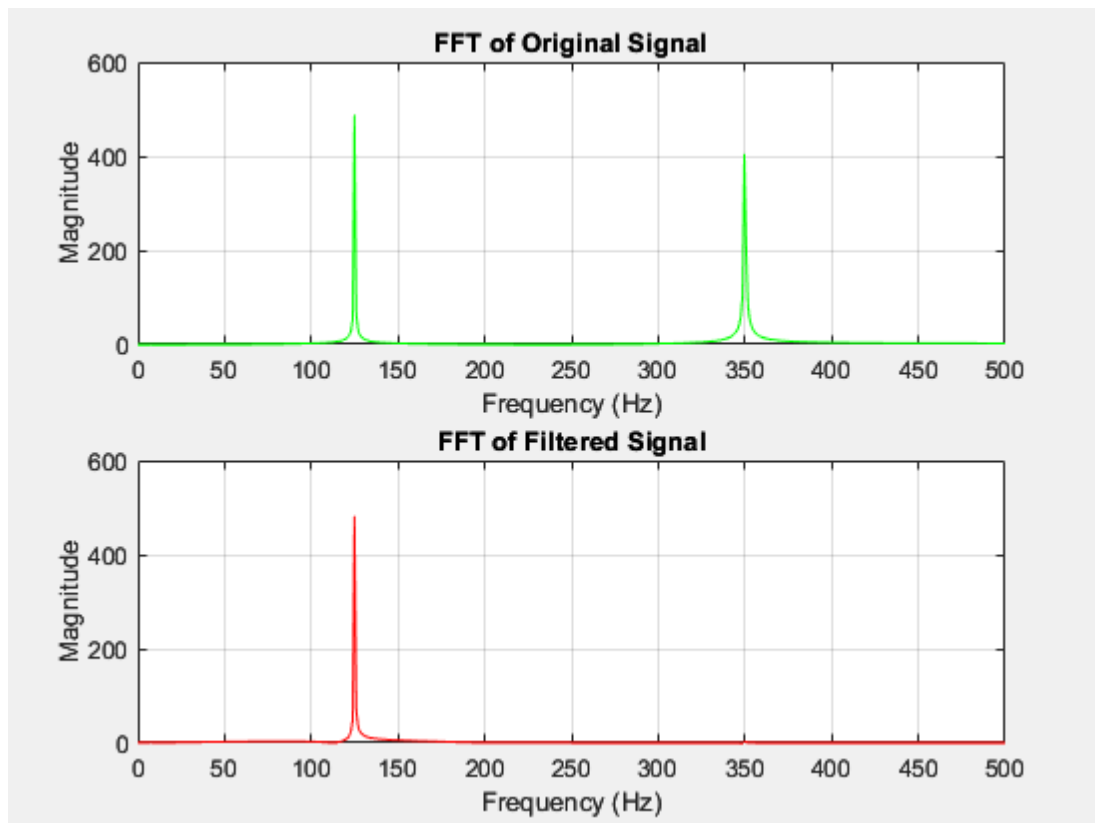

Figure 6. Frequency Domain Analysis Before and After Filtering.
12. Plot the FFT of both the original and filtered signals to visualize the frequency content before and after filtering, under the same sampling rate of 1000 Hz as shown in Figure 6.